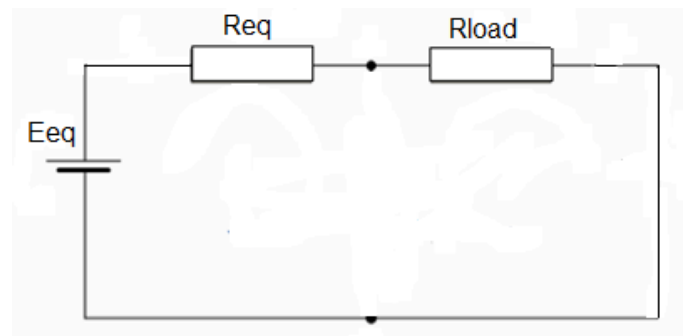

Fig. 6.1.3: Thevenin Equivalent circuit.
After finding the values of E_{eq} and R_{eq} , we can calculate the current through R_L in Thevenin equivalent circuit shown in Fig.6.1.3.
- 3- Assemble Thevenin equivalent circuit in Fig 6.1.3 to measure the current and the voltage in the load resistance, write the result in the table 6.1.4.
After finding the values of I_{eq} and R_{eq} , we can calculate the current and the voltage through R_L in Norton equivalent circuit shown in Fig.6.1.3.